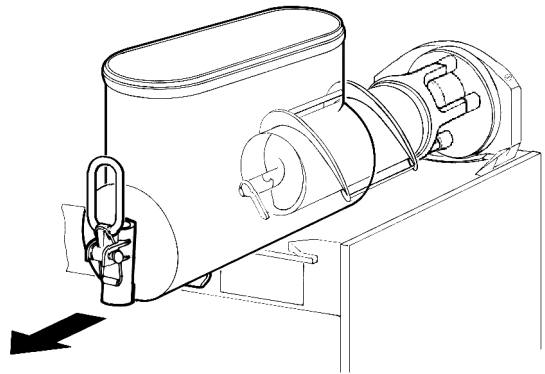

**figure 6**
side up and off the hook located on the opposite side (see figure 6).
- 8 - On 369 MODEL install the lateral tray by reversing the disassembly steps (see figure 6).